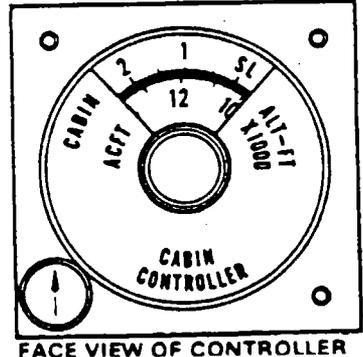

Figure 21-4. Cabin Air Pressure Outflow Valve Controller Schematic
3. **Cabin Pressure Controller:** ( Refer to Figure 21-4. )